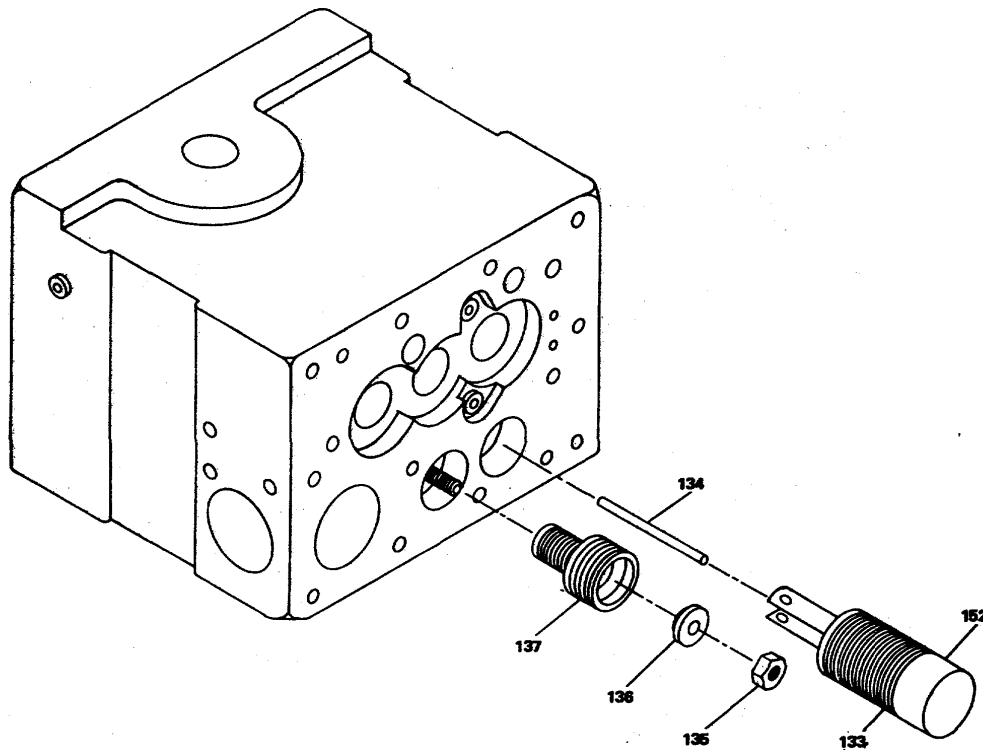

Figure 12-17. Piston Placement
(13) Refer to figure 12-17 and 12-18.